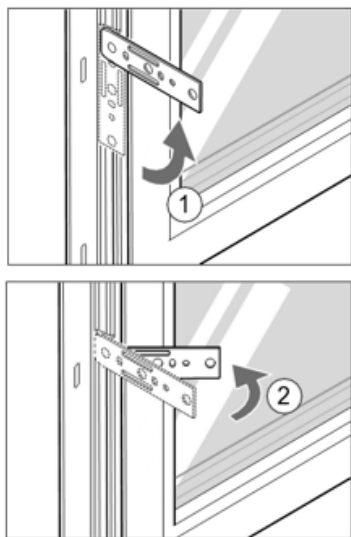

Figure 3-2. How to rotate and bend the strap anchors
- 1.2 If strap anchors are included with the window, rotate them until they are at right angles to the frame. Bend the strap anchors inwards about 45°. See fig. 3-2.